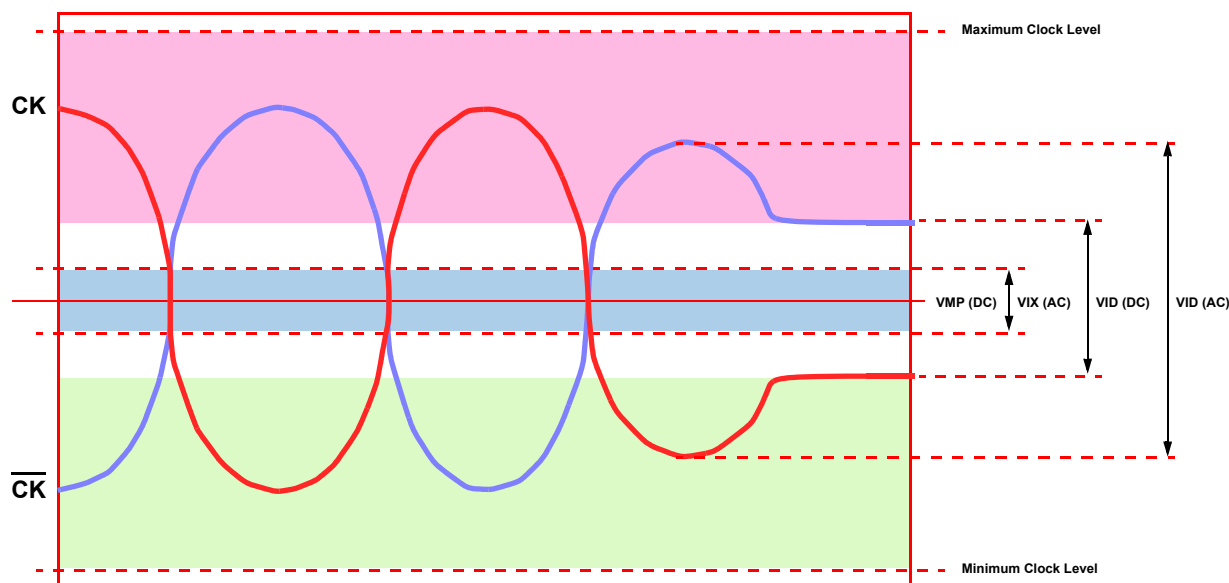

Figure 64. Clock Waveform
- 11) Figure 64 illustrates the exact relationship between (CK/ \overline{CK}) or (WCK/ \overline{WCK}) and VID(AC), VID(DC) and tDVAC
- 12) Ringback below VID(DC) is not allowed.